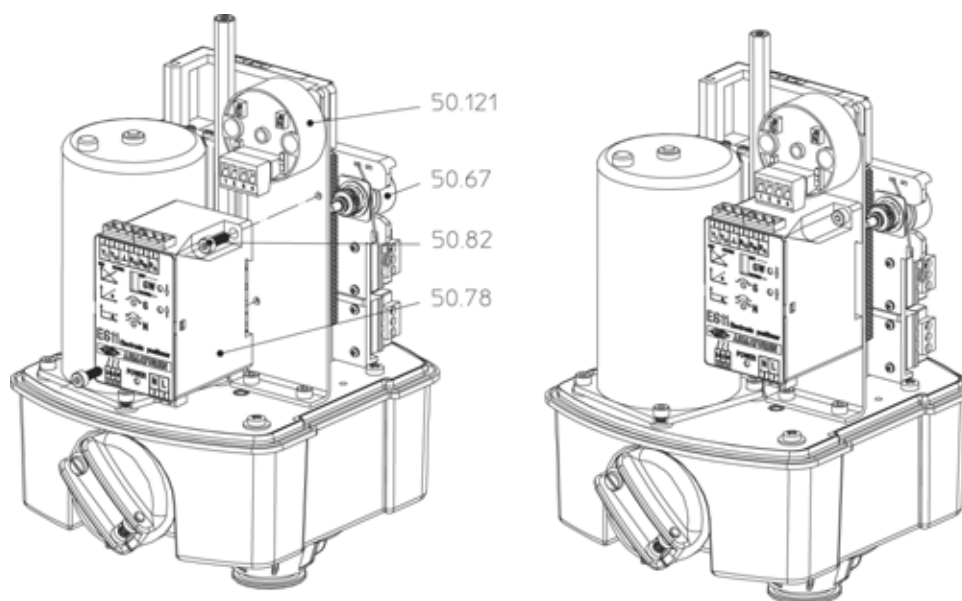

Fig. 28: Simultaneous intallation RI32 / ES11 ARI-PREMIO® 2,2 - 5 kN
- Mount RI32 and ES11 with mounting kit according to Fig. 28.